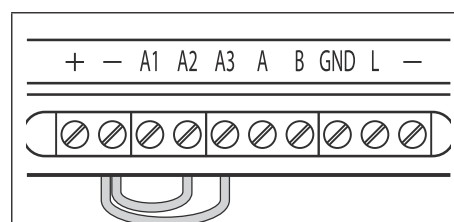

Fig. 35
2. Short out the auxiliary terminals **A2** and **A3** to the - terminal with a piece of link wire, see **Fig.35**;